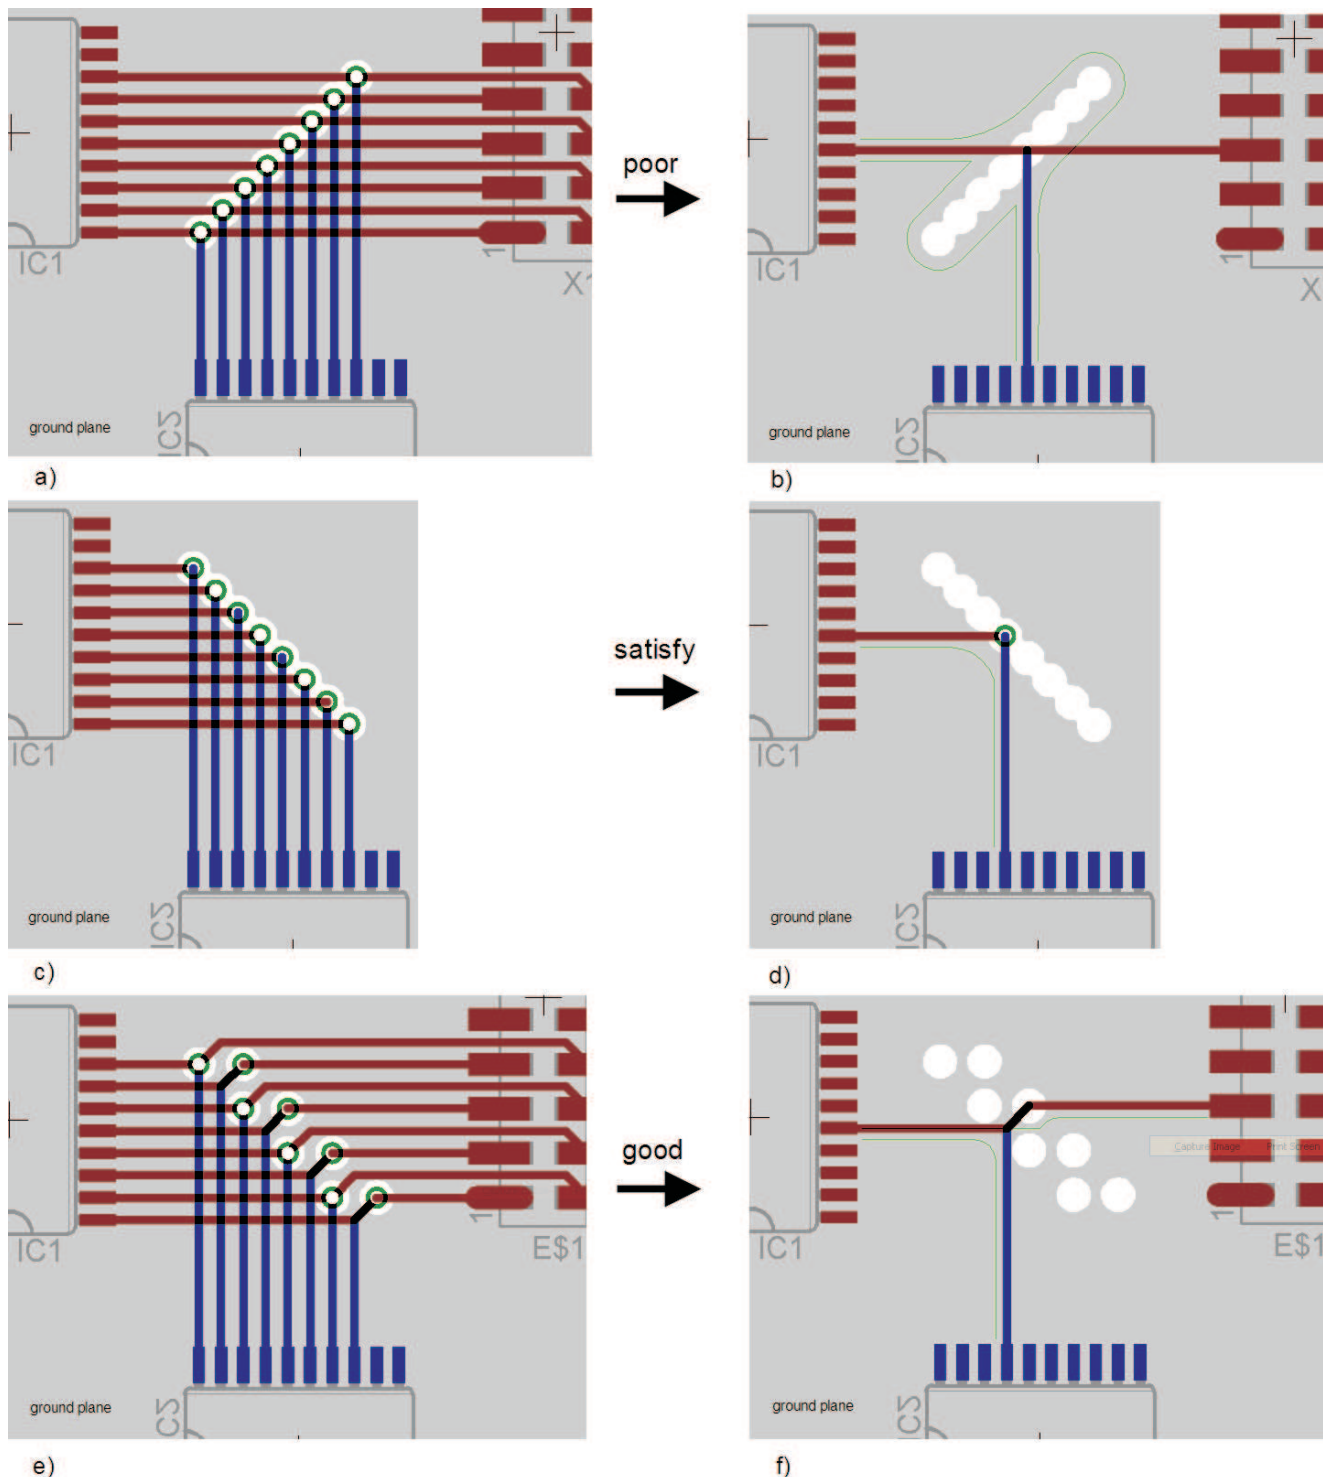

Figure 15. Poor and Good Via Placement
Figure 15 shows how good via placement avoids loop areas if there is need for multiple vias.
Figure 15: Because of wrong via placement, especially with bus signals, slots in the ground plane can arise. Further, the return current can create a loop area when placing the vias in the wrong direction. Three different routings are shown on the left. On the right, some traces are masked out to see how the return current (green trace) will flow.
- Do not create slots, for example in the ground plane, by using closely placed vias (see Figure 15).